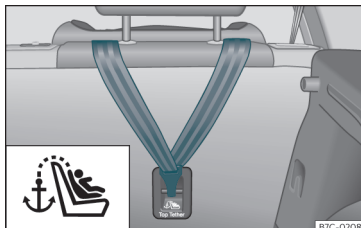

Fig. 35 Position of the Top Tether rings on the back of the rear seat.
- Slide the strap and secure it properly with the anchorage of the backrest >>> **Fig. 35**.